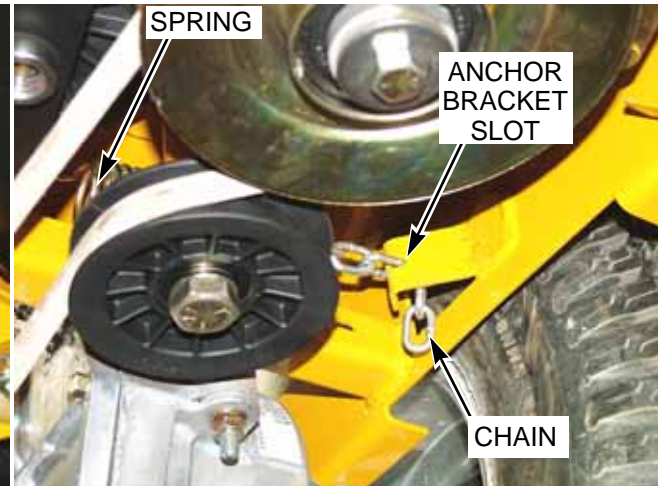

FIG. 17
7. Release the tension from the integrated pump/motor belt by pulling on the belt tension chain and sliding the chain out of the anchor bracket slot. (FIG. 17).
15. Re-attach the spring and chain to the tensioner pulley arm. Pull chain and slide the chain into the anchor bracket slot.)FIG. 17).